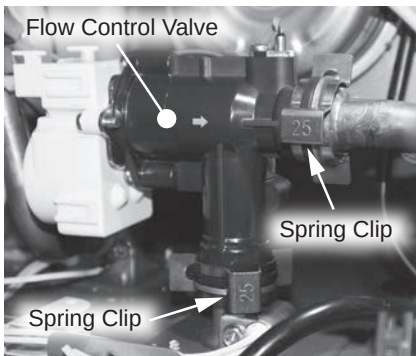

Figure 99 - Locating and disconnecting flow control valve
- 15** Locate the flow control valve in the water heater as shown in Figure 99.
- 16** Remove the two spring clips (size 25) securing the flow control valve to the piping system. Place the spring clips aside in a safe place for reinstallation. See Figure 99.
- 34 Locate the two (2) spring clips previously removed in **Step 16**. Install spring clips to flow control valve, securing it to piping connections. See Figure 99. Verify water connections are tight and will not leak.